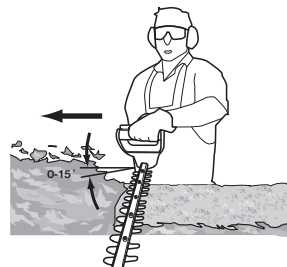

Fig. 6
6. After cutting the sides proceed to the top. Try to keep the cutting device angled at approximately 15° to the cutting surface (Fig. 6).